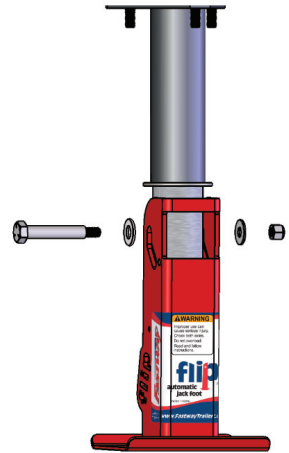

Figure 6
d) Slide the 1/2" washer onto the 1/2" bolt, and slide the bolt through the slot in the top of the jack foot and the 1/2" hole in the inner jack tube. Slide the smaller 3/8" washer over the threaded end of the bolt, and then thread on the Nylock nut (See Figure 6). Tighten the nut securely and then check to make sure the Flip jack foot can swing freely up and down.